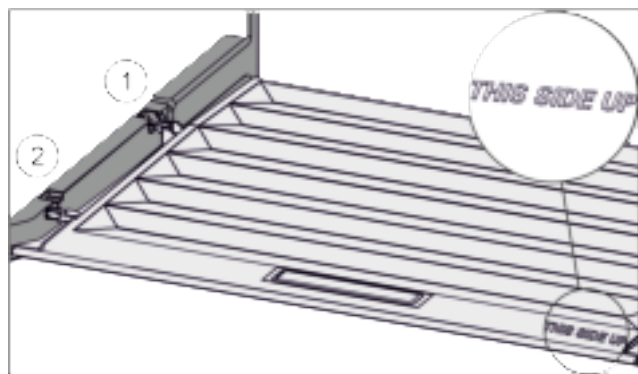

Fig. 94
- Insert the lip of the cover over the opening of the rear bracket *Fig. 94 (1)* and click into place *Fig. 94 (2)*.